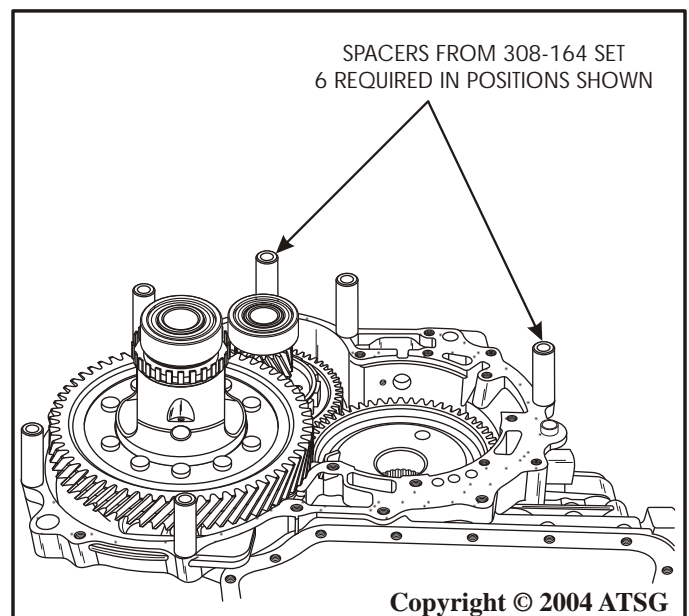

Figure 137
53. Place the six spacers from the Shim Selection Tool Set (308-164) in the positions that are shown in Figure 137.